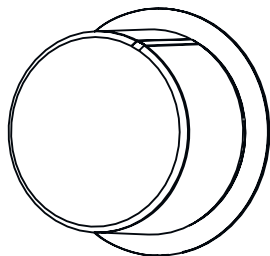

Fig. 16: Pop out on
- Press inward to pop out the button and then adjust (Fig. 16).